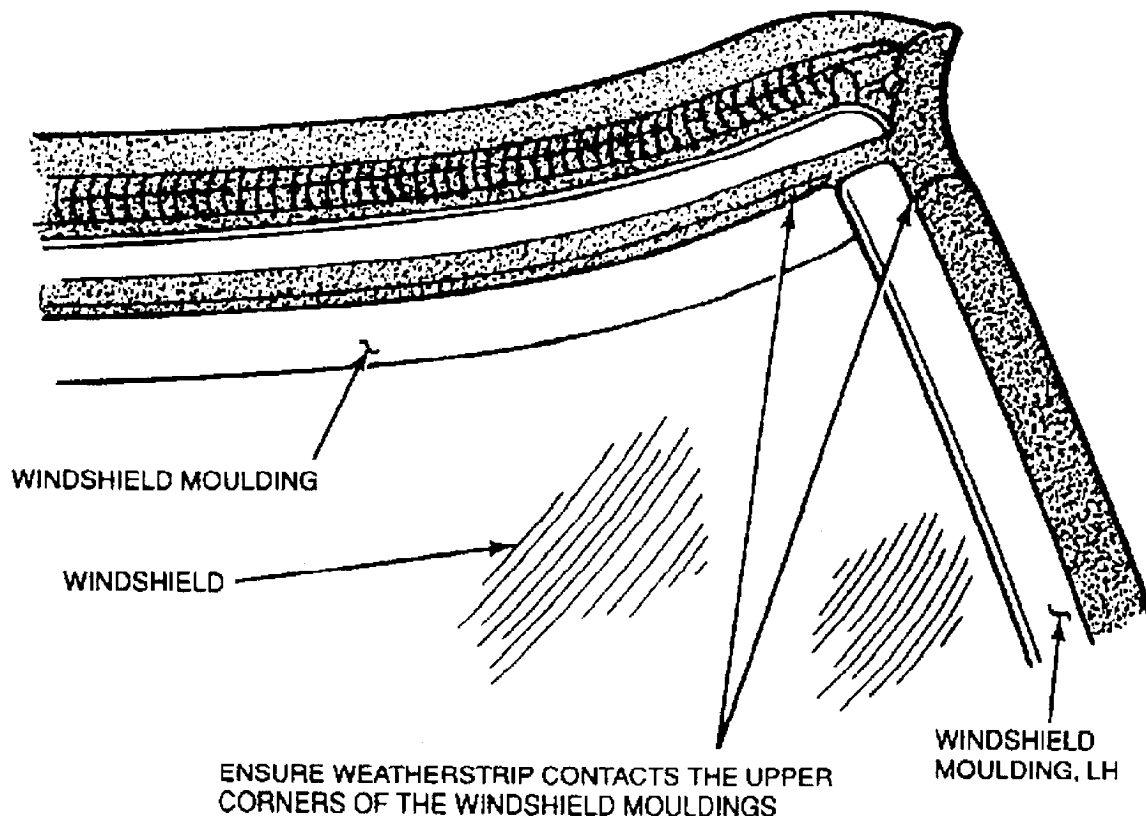

Fig. 2: Windshield Corner
9. Make sure the weatherstrip contacts the windshield mouldings in the upper corners, Figure 2.